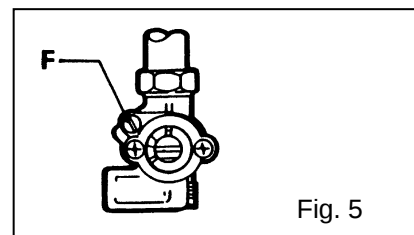

Fig. 5
5.1.3 Regulating the minimums (Fig. 5)